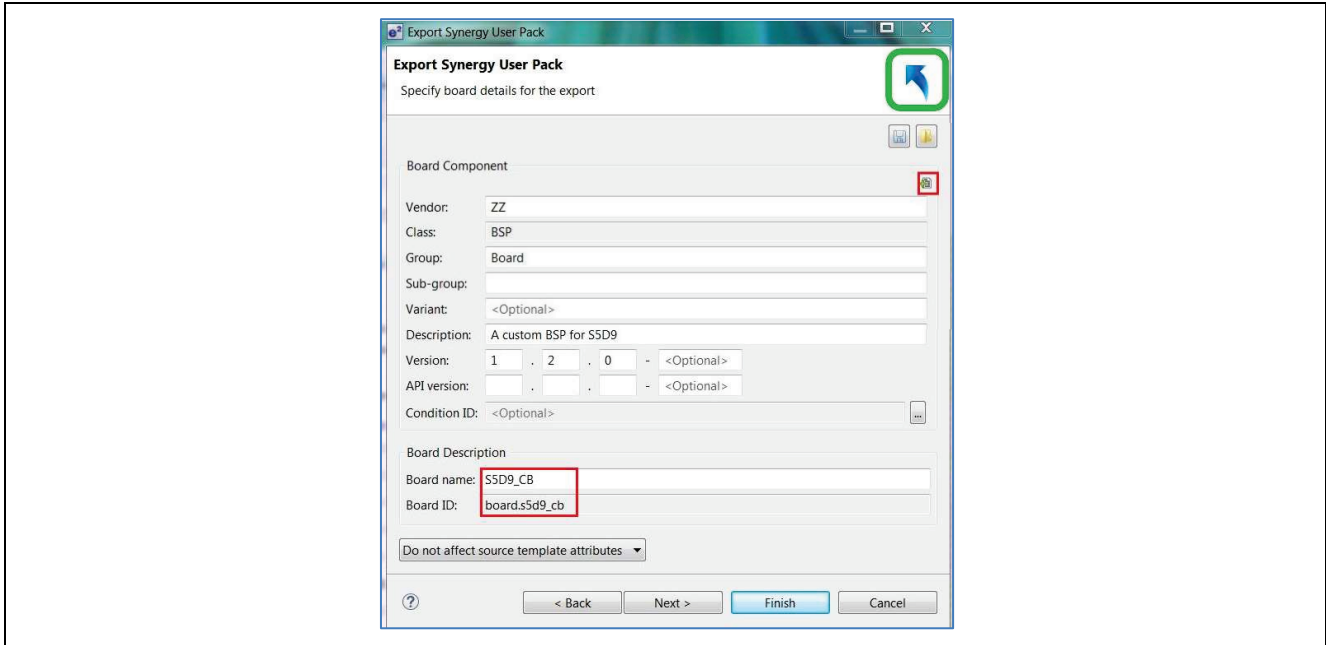

Figure 19. Specify the Custom Board Information in the Synergy User Pack
- C. Fill out the Vendor, Name, and Version information, and click **Next**. This brings up the dialog in Figure 19.